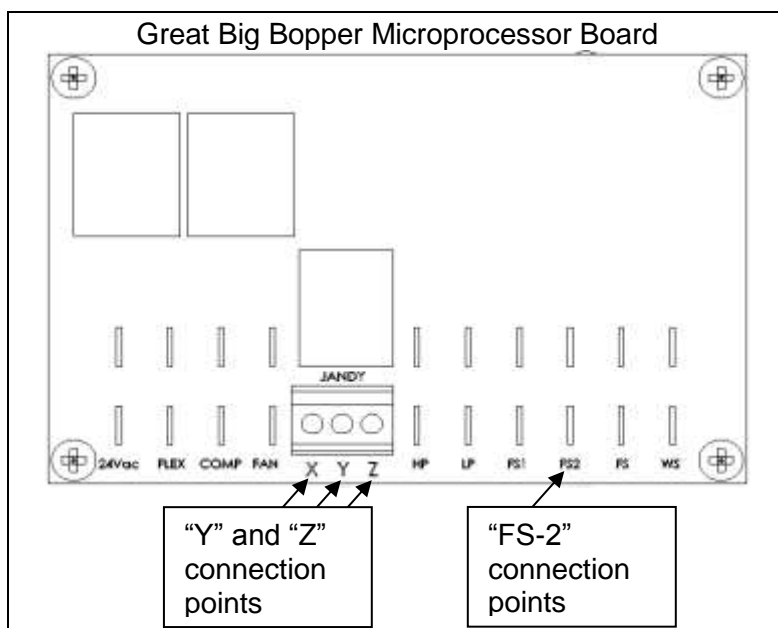

Figure 18
- For a two-wire controller (which has a thermostat) – Connect to the "Y" and "Z" connections of the block labeled "X-Y-Z". See Figure 18.